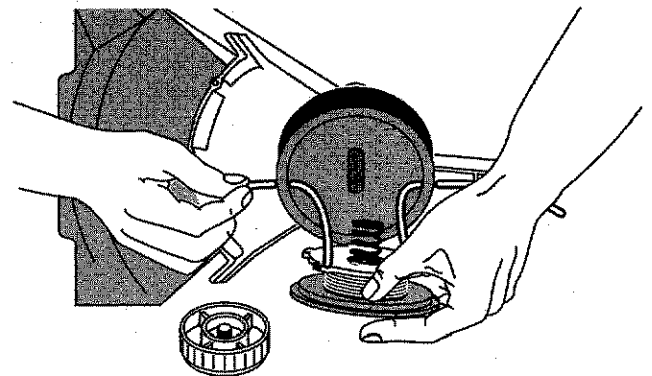

Fig. 38
- Place the spring in the inner reel. Insert the ends of the line through the eyelets in the outer spool and place inner reel inside the outer spool (Fig. 38). Push the inner reel and outer spool together. Whilst holding the inner reel and outer spool, grasp the ends and pull firmly to release the line from the holding slots in the spool.
- Insert the ends of the line through the eyelets in the outer spool (Fig. 38).